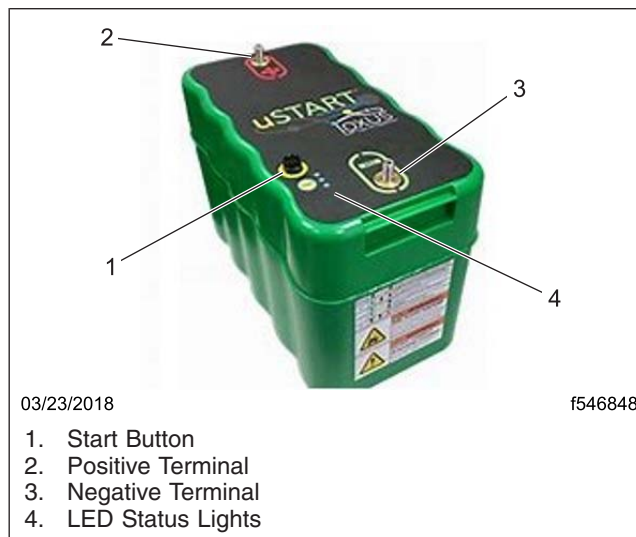

Fig. 1, uStart Ultra Capacitor
4. Put the uSTART into "Maintenance Mode." With the battery cables connected, hold the uSTART start button for 10 seconds until the LED lights turns yellow. See Fig. 1.